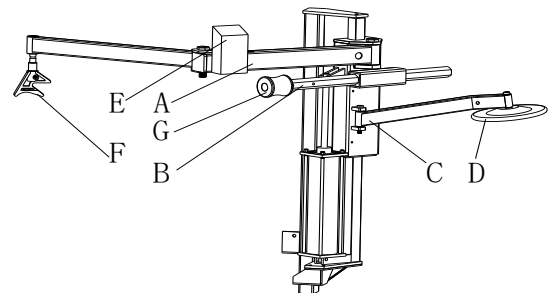

Fig 12
- 4) Install the Rotating arm (A)、 Hexagonal horizontal arm (B) and Tire lifting roller support (C) separately on the tire changer;(Fig 12)
- 5) Install the tire lifting roller (D)、 the switch (E)、 tire pressing head (F) and tire pressing roller(G) separately on the tire changer;(Fig 12)
Fig 12 shows functional parts to the 036 device:
Caution: The roller support can't be used for all tires, some tires need following operation: Move the mounting head above the rim; Insert the lifting lever in the clearance between the bottom tire bead and the rim, have the tire hung on the mounting head(Fig 12); Tread the power supply pedal to rotate